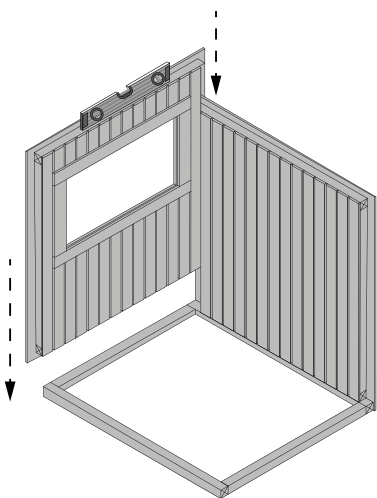

Figure 4.
- 7) Ensure the wall is set level (see figure 4)